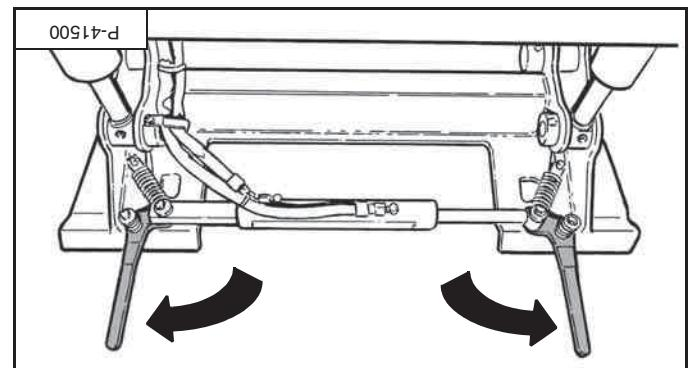
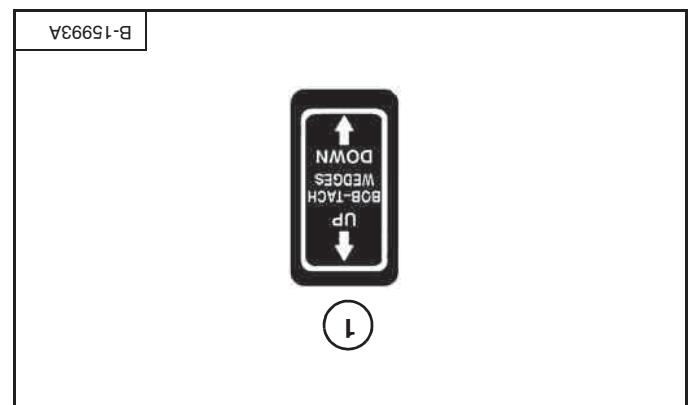

Figure 33
Figure 32
Push and hold the BOB-TACH "WEDGES UP" switch (item 1) [Figure 32] until the levers are fully raised (wedges fully raised) [Figure 33].